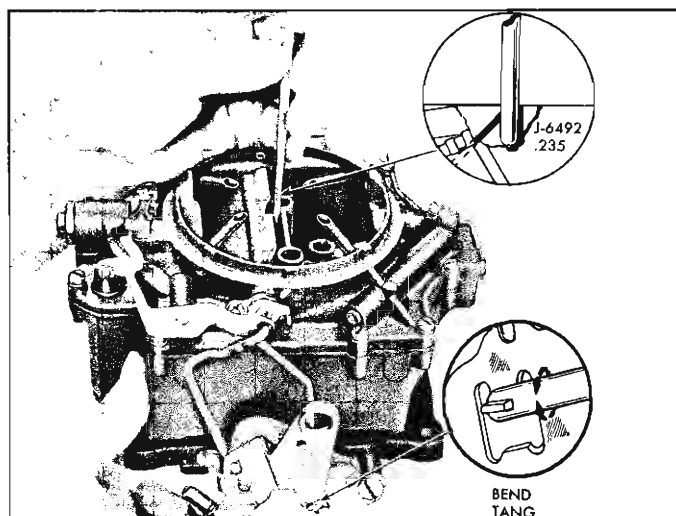

Fig. 23—Checking Unloader Adjustment
- **Choke Unloader Adjustment**—With choke trip lever contacting choke counterweight lever fully depress accelerator or hold throttle valves in wide open position and insert .235" gauge J-6492 between top of choke valve and dividing wall of air horn (fig. 23) to check for correct clearance at this point. To adjust if necessary, bend tang on the fast idle cam with bending tool J-5197.